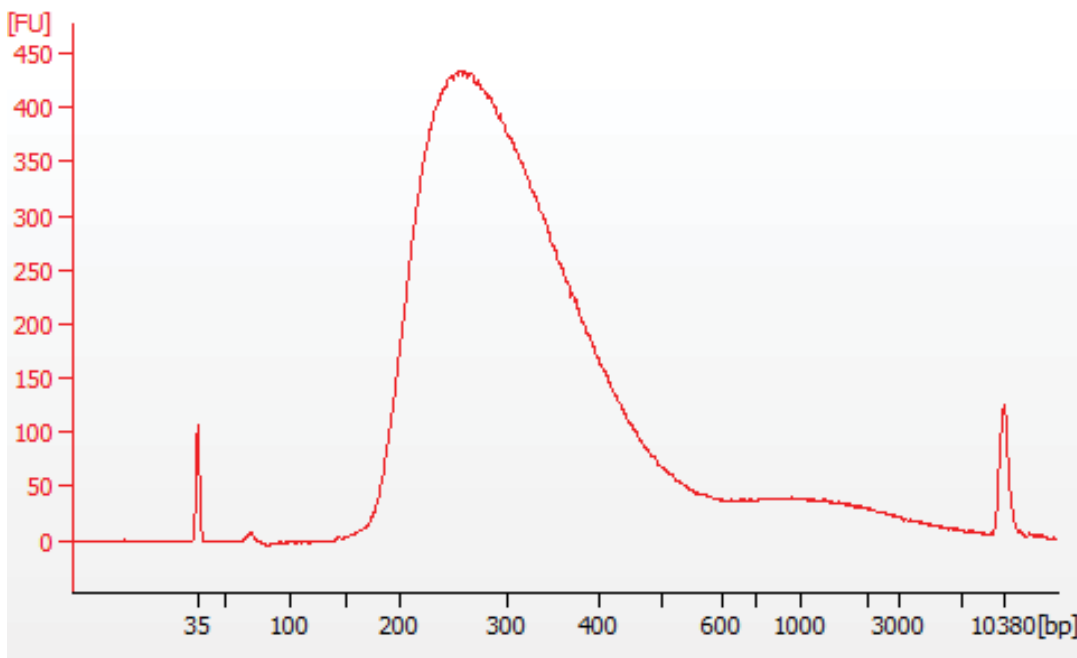
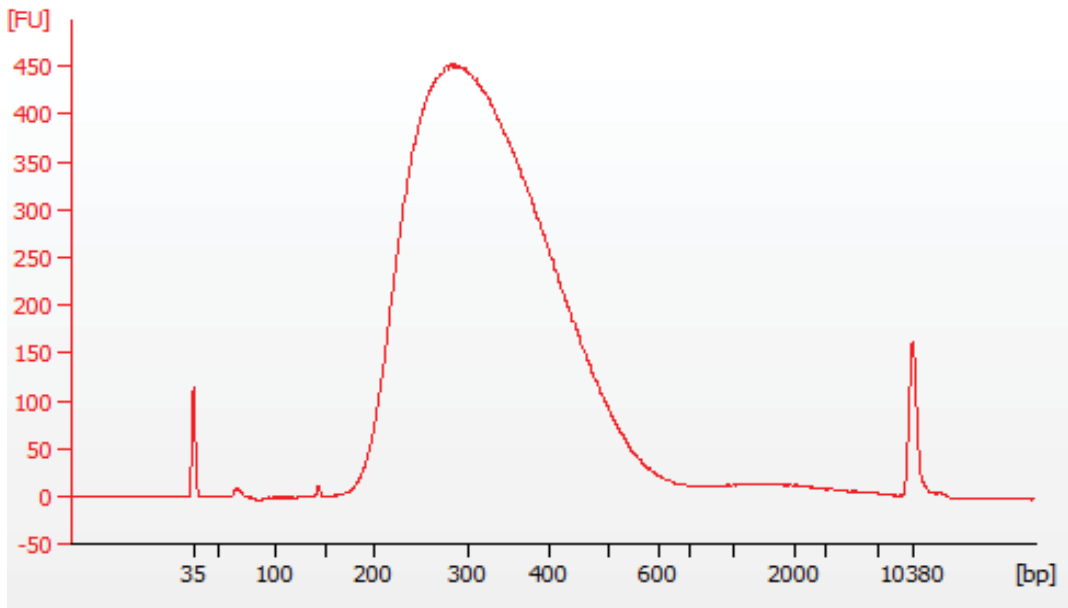
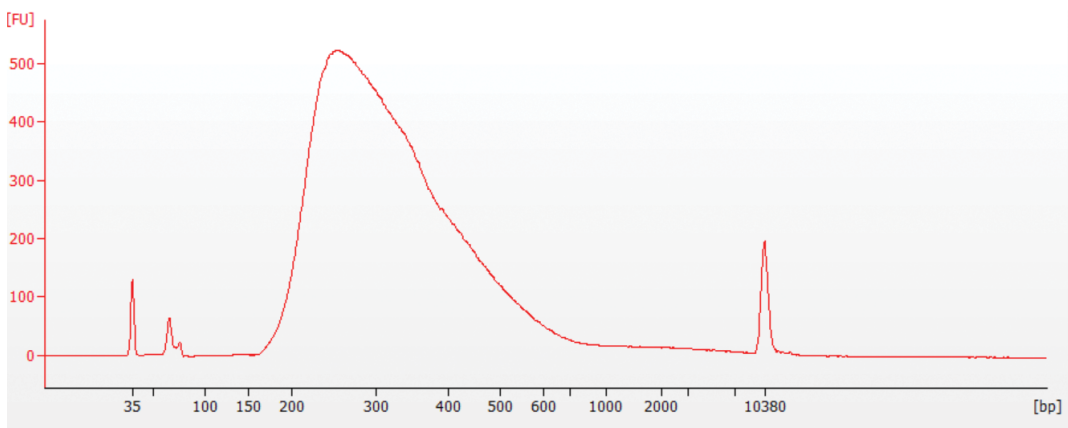

Figure 3: Example of an amplified KAPA HyperPlus sample library analyzed using the Agilent Bioanalyzer High Sensitivity DNA assay.
Figure 4: Example of an amplified KAPA HyperPrep sample library analyzed using the Agilent Bioanalyzer High Sensitivity DNA assay.
Figure 5: Example of an amplified KAPA EvoPlus sample library analyzed using the Agilent Bioanalyzer High Sensitivity DNA assay.
- Amplified Sample Libraries (pre-capture libraries) should have an average fragment size distribution at ~ 320 bp (Figure 3, Figure 4, Figure 5) with a range setting at 150 to 1000 bp on the Bioanalyzer. Sharp peaks may be visible in the region <150 bp. These peaks correspond to unincorporated primers, primer-dimers or carryover adapter-dimers and will not interfere with the capture process.